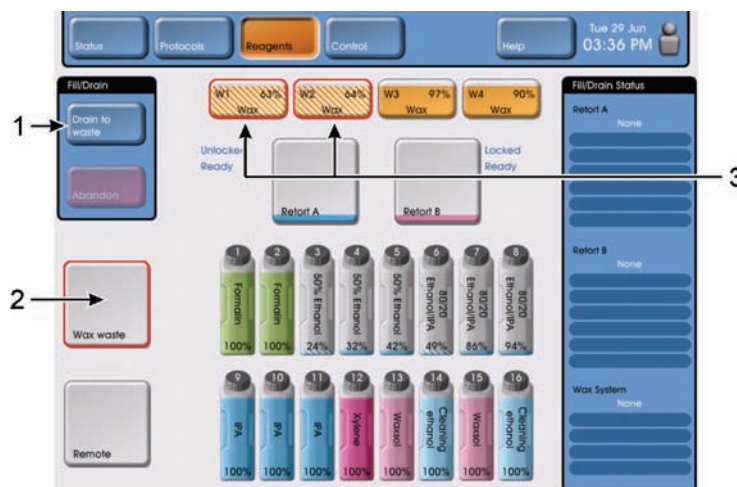

Figure 116: Remote fill/drain setup for draining wax stations
1. Select the wax station(s) you wish to drain (item 3 in Figure 116).
2. Select the **Wax waste** icon from the remote fill/drain screen (item 2 in Figure 116).
3. Select the **Drain to waste** button to begin the drain operation (item 1 in Figure 116).